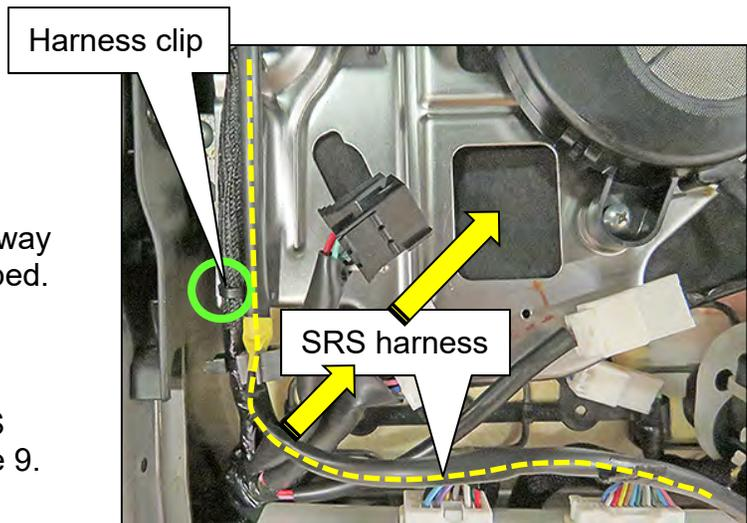
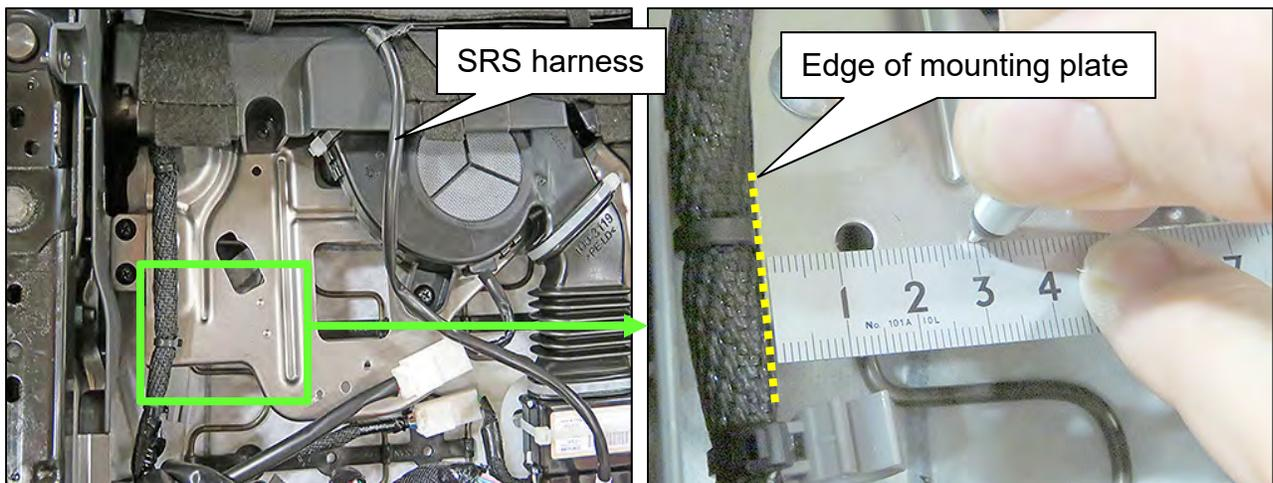

Figure 9
Figure 10
12. Detach the harness clip shown in Figure 9 from the seat frame.
- Shown highlighted in yellow in Figure 9.
NOTE: Not all seats have the SRS harness routed as shown in Figure 9. Figure 10 shows another possible routing on a different seat.
14. Using a ruler measure approximately 30 mm from the left edge of the climate controlled seat control unit mounting plate, and then mark as shown in Figure 10.